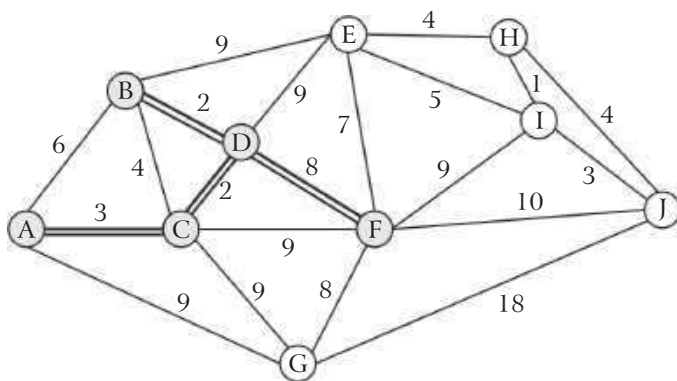

Fig. 8.10
Step 4: The node $\textcircled{F}$ of set $\bar{C}$ is nearest to the node $\textcircled{D}$ of set C . So we choose this node $\textcircled{F}$ and transfer it from the set $\bar{C}$ to the set C and choose the branch joining these two nodes $\textcircled{F}$ and $\textcircled{D}$ for M.S.T.. These are shown in fig. 8.10.